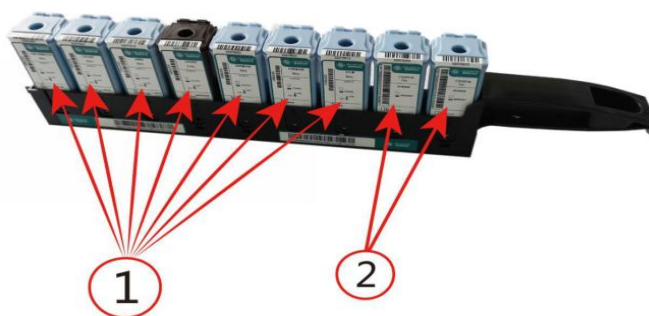

Figure 3.17: 1. Detection system, 2. Open container
As shown in Figure 3.17, a group of predefined reagents on the reagent tray corresponds to the detection system (1). The predefined reagents are provided in concentrations optimized for the system, so require only registration and opening before use. For other positions, such
As shown in figure 3.17, a clean, empty containers are used to hold a user-supplied reagent (such as a primary antibody, auxiliary reagent). Open container can be used with only one reagent, and the same reagent can be added up to a certain number of times until a certain total quantity(30mL).